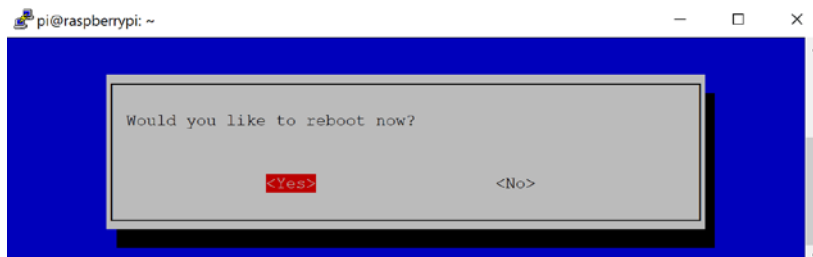

Figure 4.10 – Say Yes to rebooting
2. The next screen asks whether you want to reboot the Pi. Select **Yes** and press *Enter* (*Figure 4.10*):